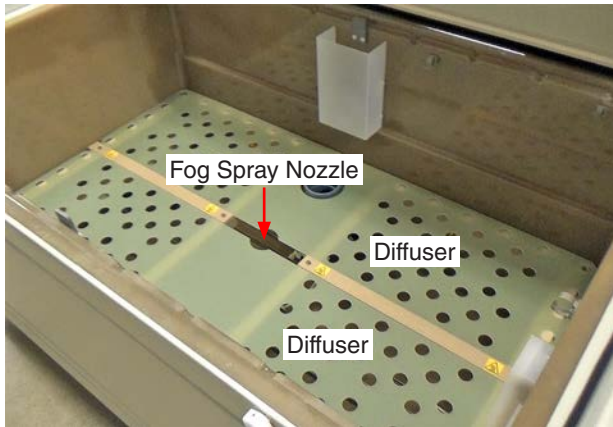

Figure 8.6a: Fog Spray Nozzle located at chamber bottom under diffusers.
- The Fog Spray Nozzle is located at the bottom center of the test chamber below the diffusers (Figure 8.6a).